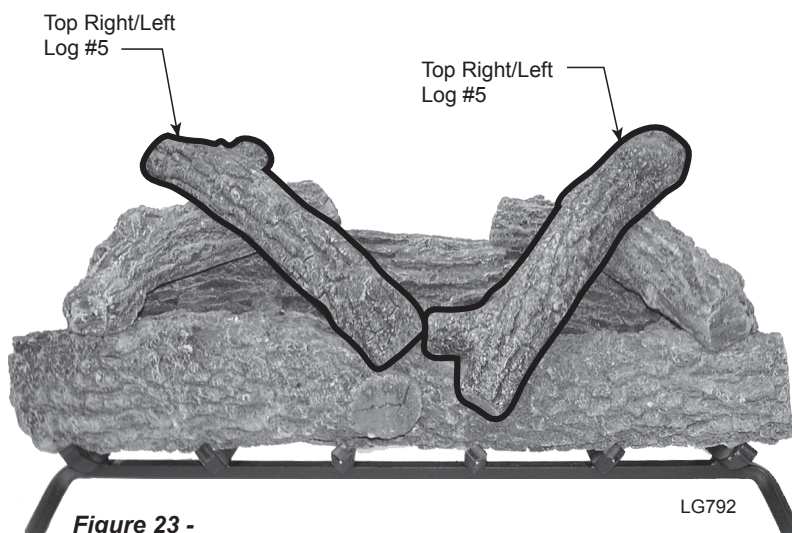

Figure 23 -
5. Place Top Right/Left Log #5 on Log #4 and Log #1. *Figure 23*
6. Place Top Right/Left Log #5 on Log 4 and Log #1. *Figure 23*